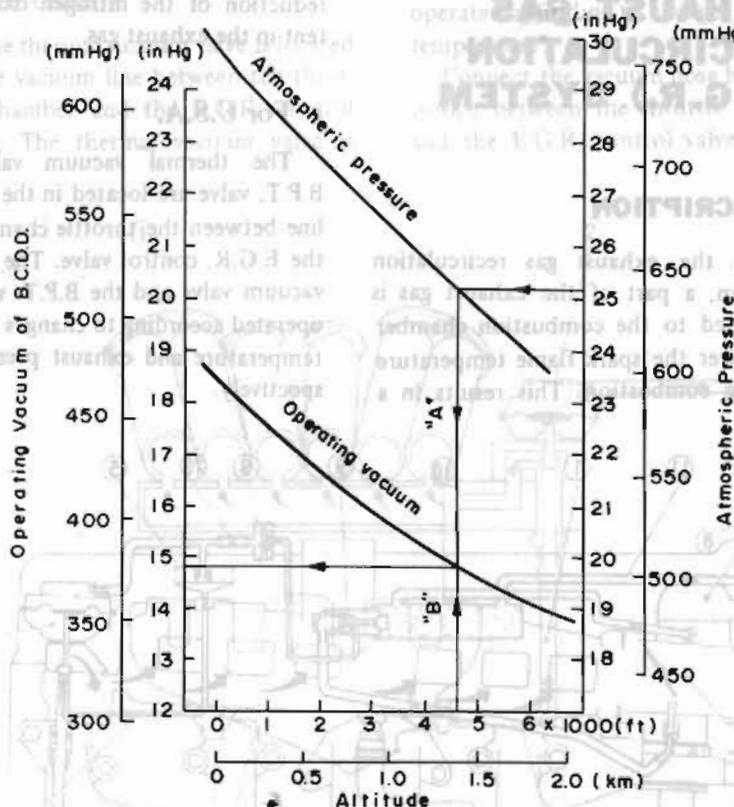

Fig. EC-8 Changes in B.C.D.D. Operating Pressure versus Changes in Atmospheric Pressure and Altitude (California models)
- b. When atmospheric pressure is known, operating pressure will be found by tracing the arrow line "A". See Fig. EC-8. When altitude is known, operating pressure will be found by tracing the arrow line "B". See Fig. EC-8.
- c. When checking the set pressure of B.C.D.D., find the specified operating pressure in Fig. EC-8 from the atmospheric pressure and altitude of the given location.